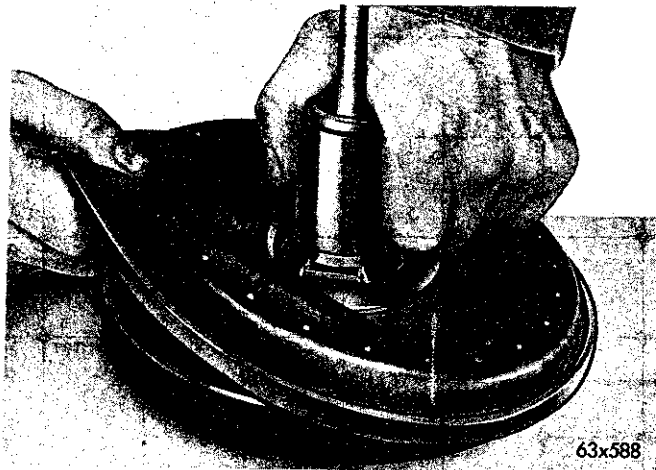

Fig. 19—Removing Rubber Diaphragm
(8) Remove the diaphragm and valve assembly from the rear shell.
(9) Place the diaphragm and valve housing face down and stretch the rubber diaphragm out and over the hub of the valve body (Fig. 19).